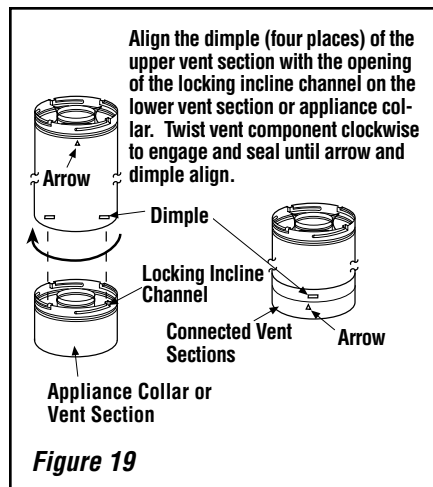

Figure 19
B. Attach vent components to appliance - Secure Vent SV4.5 direct-vent system components are unitized concentric pipe components featuring positive twist lock connections (see **Figure 19**).
To attach a vent component to the appliance collar, align the dimpled end over the collar, adjusting the radial alignment until the four locking dimples are aligned with the inlet of the four inclined channels on the collar (refer to **Figure 19**). Push the vent component against the collar until it fully engages, then twist the component clockwise, running the dimples down and along the incline channels until they seat at the end of the channels. The unitized design of the **Secure Vent** components will engage and seal both the inner and outer pipe without the need for sealant or screws. If desired a #6 x 1/2" screw may be used at the joint, but it not required as the pipe will securely lock when twisted.
Push the vent component against the previous section until it fully engages, then twist the component clockwise running the dimples down and along the incline channels until they seat at the end of the channels. **This seating position is indicated by the alignment of the arrow and dimple as shown in Figure 19.**